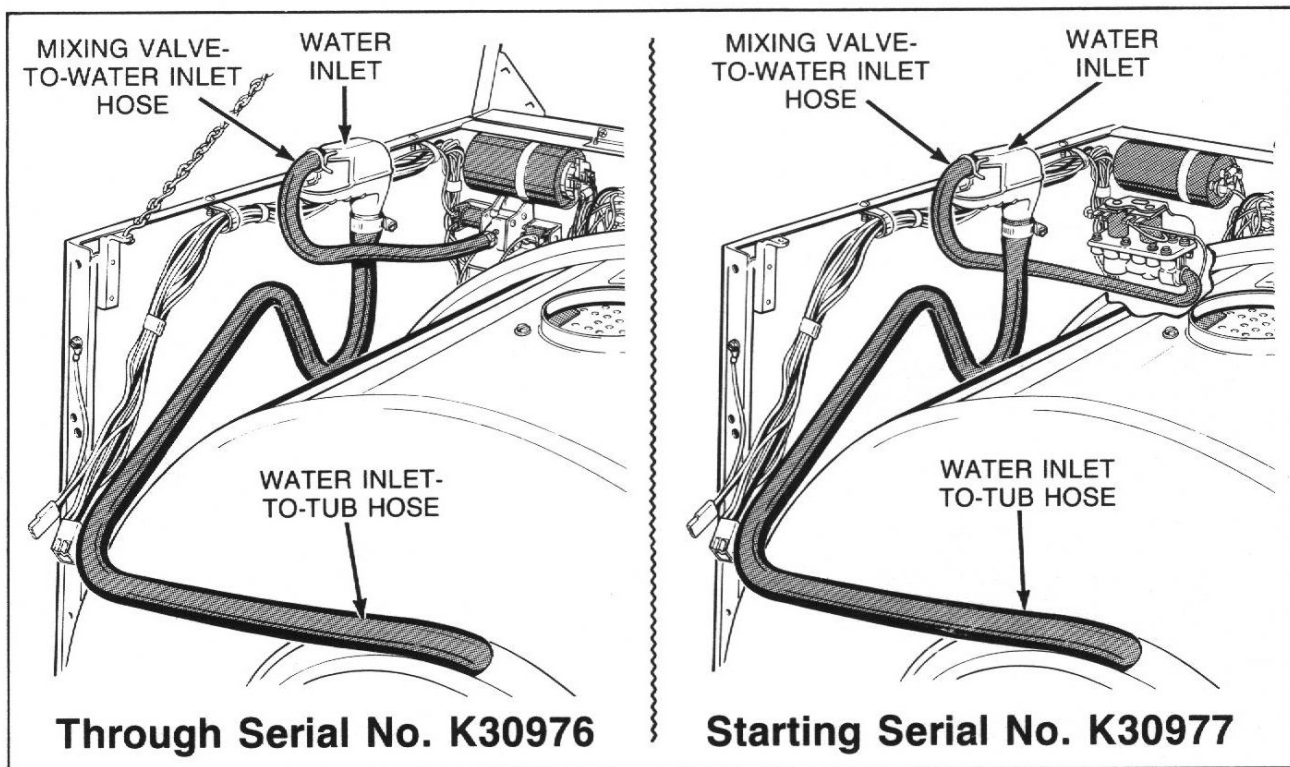

Figure 24
- e. Disconnect hoses from water inlet, *Figure 24*.
**IMPORTANT:** (Through Serial No. K30976), install the water inlet-to-tub hose behind mixing valve water inlet hose, *Figure 24*. (Starting Serial No. K30977), install the water inlet-to-tub hose in front of mixing valve water inlet hose, *Figure 24*.
- m. Disconnect water inlet-to-tub hose from water inlet and from outer tub, *Figure 24*.